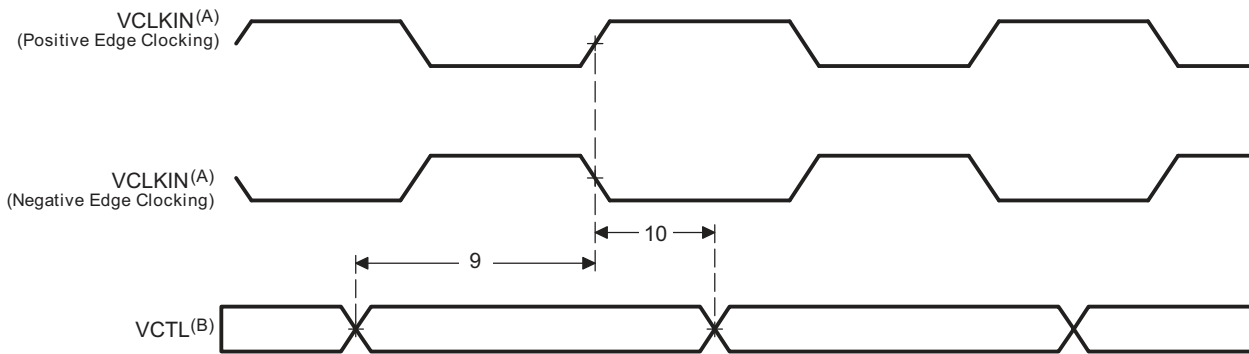

**Figure 6-35. VPBE PCLK and EXTCLK Timing**
**Table 6-52. Timing Requirements for VPBE CLK Inputs (see Figure 6-35)**
(1) For timing specifications relating to PCLK see Table 6-45, Timing Requirements for VPFE PCLK Master/Slave Mode.
**Table 6-52. Timing Requirements for VPBE CLK Inputs (see Figure 6-35) (continued)**